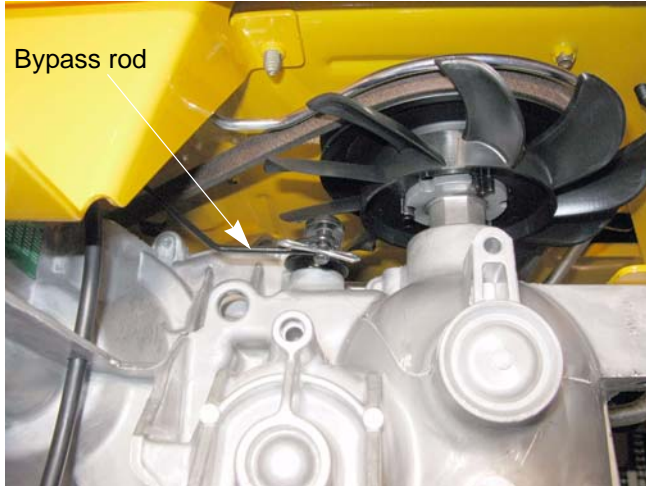

Figure 4.30
11. Remove the bowtie clip that secures the bypass rod to the by-pass arm. See Figure 4.30.